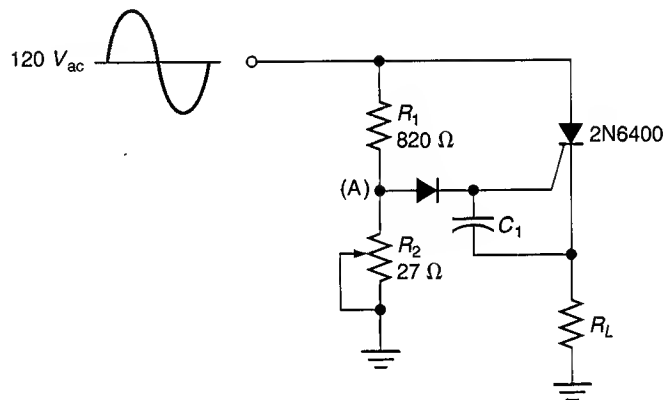

FIGURE 20.51
20. Refer to Figure 20.51. R_2 in the circuit is set to the value shown. The spec sheet for the 2N6400 is given in Figure 20.11. Determine the conduction angle for the circuit load. (*Hint*: Start by finding the maximum value of v_{in} required to trigger the SCR.)